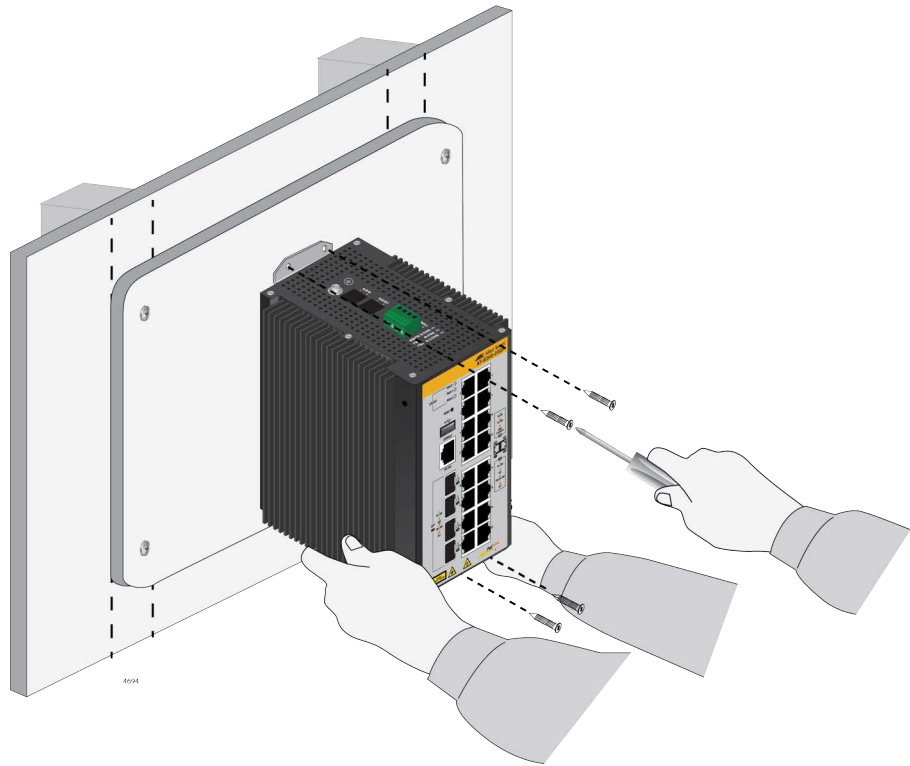

Figure 32. Attaching the Switch to the Plywood Base
5. Have another person hold the switch on the plywood base on the wall while you secure it with four screws (not provided). Refer to Figure 32.
- ❑ The switch must be oriented as shown in Figure 32. Do not install the switch horizontally or upside-down.